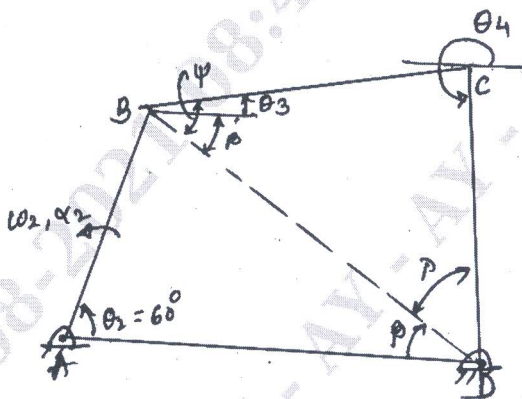

Fig.Q5
- 5 In a four bar mechanism ABCD (Fig.Q5) link AB = 300mm, BC = 360mm, CD = 360mm, and fixed link AD = 600mm. The link AB makes  $60^\circ$  with fixed link AD. The link AB has an angular velocity of 10 rad/sec and angular acceleration  $30 \text{ rad/sec}^2$  both clockwise. Determine the angular velocity and angular acceleration of link BC and CD.